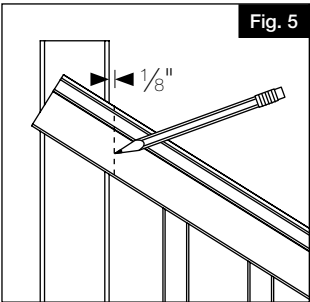

Fig. 5
- b. Trace the post onto each rail (both ends of top and bottom rails). Make four marks in total being sure to mark 1/8" shorter to allow for expansion (Fig. 5).